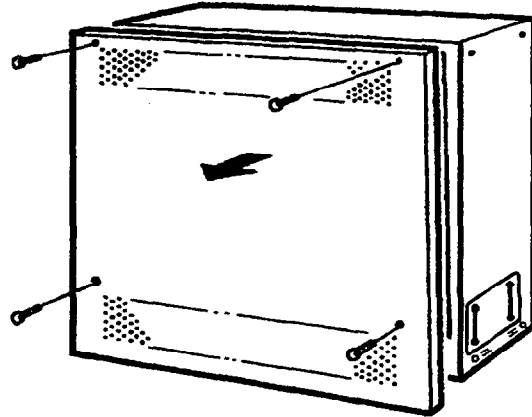

Figure 3-24 Removing the Level II Basic KSU Cover
1. Loosen the four screws on the front cover and remove the cover panel. Refer to Section 3.3.3 - Opening the KSU Cover and to Figure 3-24 - Removing the Level II Basic KSU Cover.